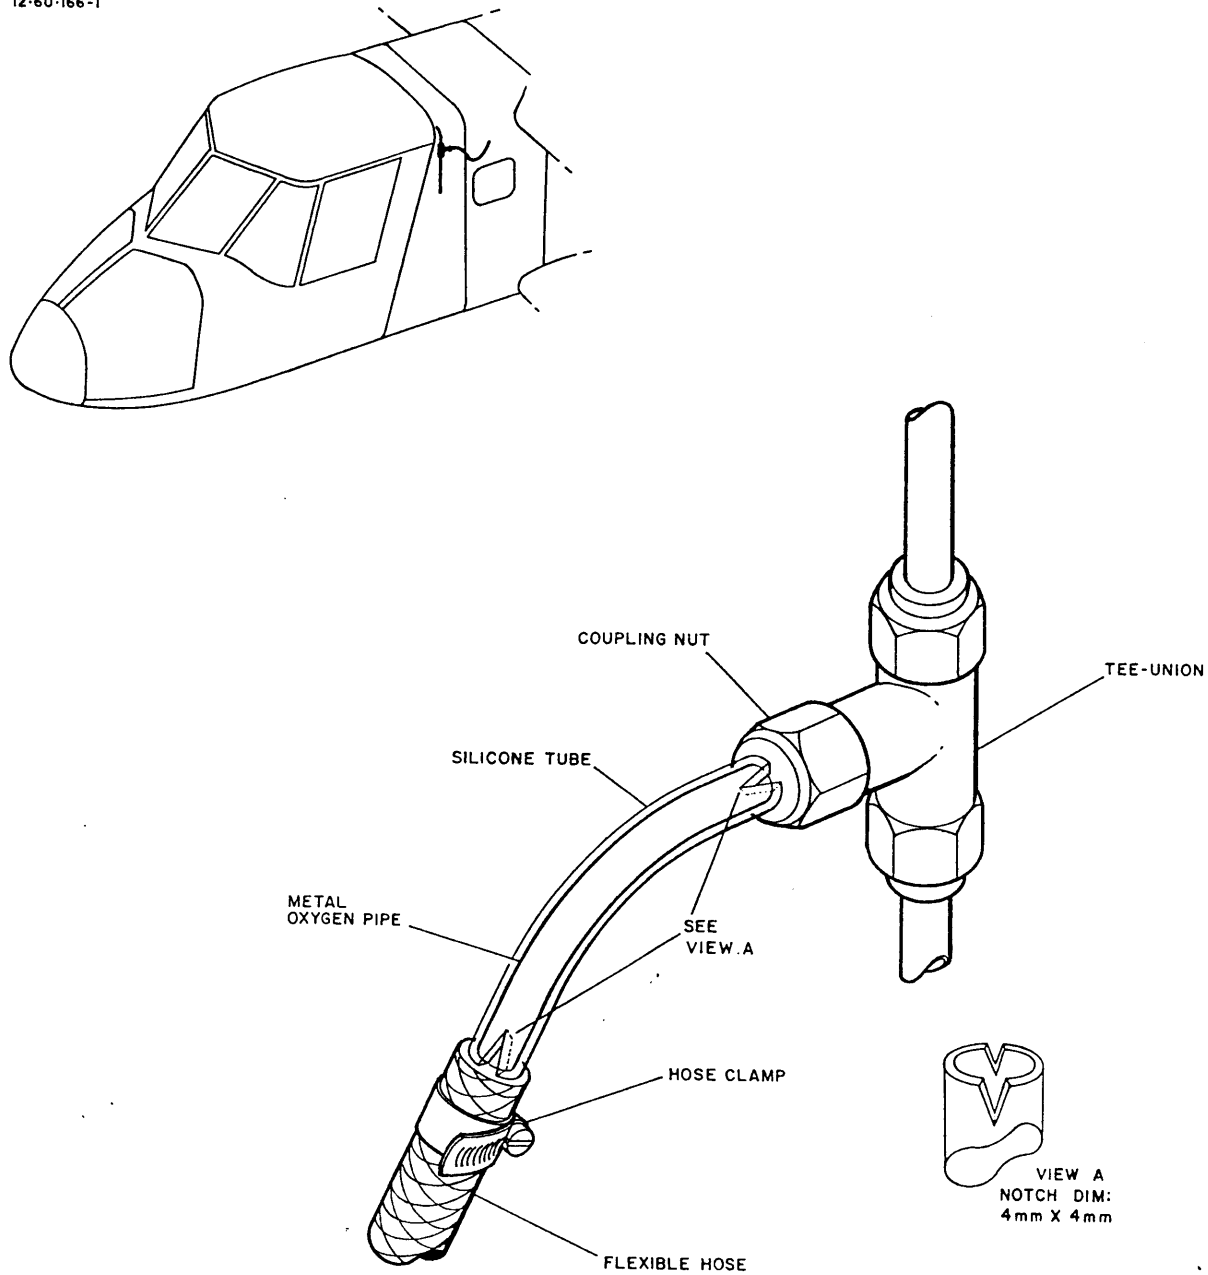

Figure 1 Installation of Protective Sleeve
- E. On Oxygen pipe PN 1A/N-71-117 (Ref IPC, Option G71B, Fig 1, page 2, item 37 and similarly for Options G71C and R72), measure the length of metal pipe from the end of the flexible hose to the rear face of the coupling nut at the tee-union, and cut a piece of clear silicone tube, 3/8 inch inside diameter, to this length. Notch the ends of the silicone tubing as shown at Figure 1.
The oxygen pipe behind the panel is protected by installing an insulating sleeve over it (Ref Fig 1).